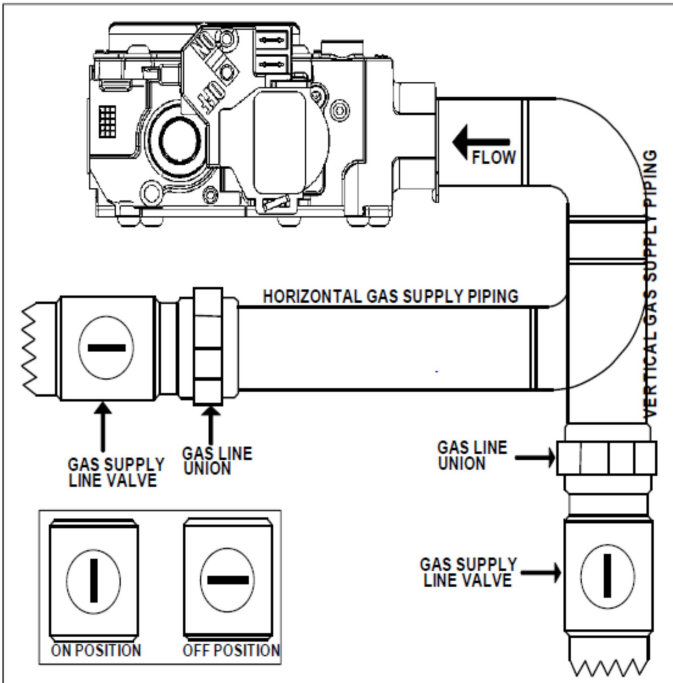

Figure 5: Gas Supply Pipe Shutoff Valve Locations
6. Make sure the gas cock or valve shown in Figure 5 is in the "ON" position.
3. Turn off the valve in the gas supply line and loosen the ground union joint. Refer to Figure 5.